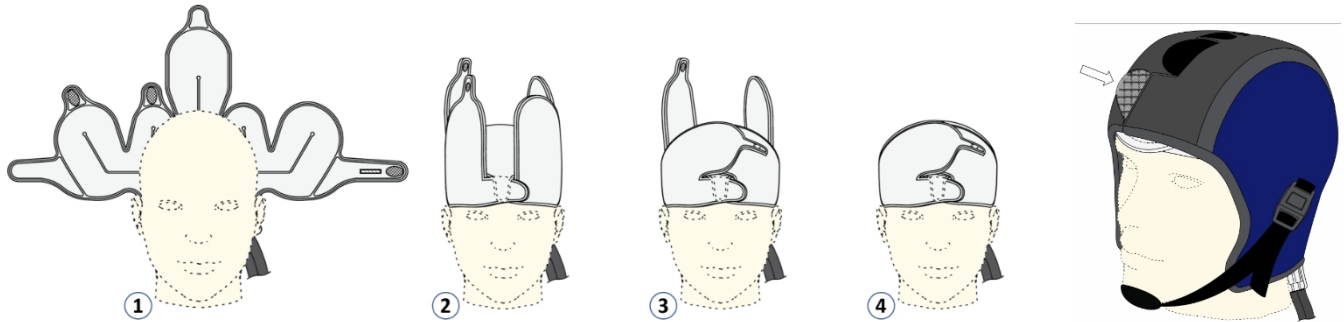

Figure 13. Fitting the Cooling Wrap and Thermal Cap
The Cooling Wrap is fitted to the patient's head in 4 steps (Figure 13) and secured with the Thermal Cap.
2. Fit the wrap around the back of the patient's head, (Figure 13,1-2). Patient will pull forehead tabs forward and slightly up near temple, to lock wrap against occipital lobe. Staff will bring center flap from back of head forward and place it so it's lying flat on head and tuck the tab behind the forehead tabs.
4. Fit the top tabs across the top of the patient's head (Figure 13,4) ensuring that they lay as flat as possible. It may help to unattach/reattach the tabs to fix any buckling that occurs with successive attachment.
6. Fit the Thermal Cap over the Cooling Wrap and attach the chin strap (Figure 13).